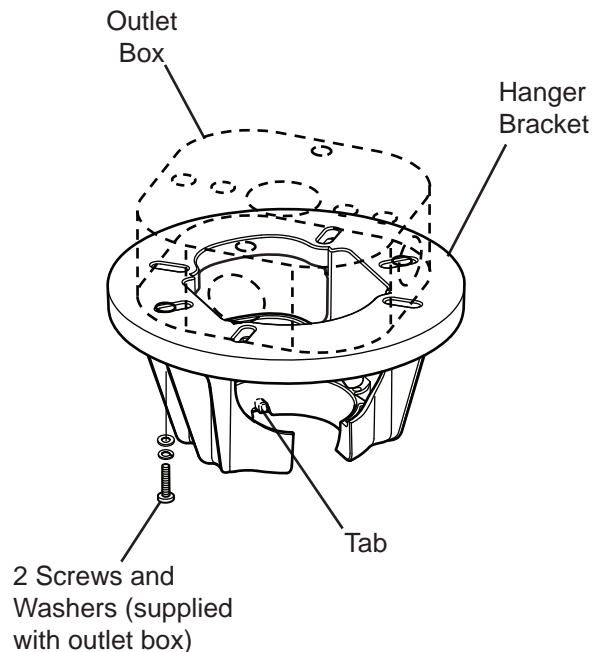

Fig. 7
1. Securely attach the hanger bracket to the outlet box using the outlet box screws and washers supplied with your fan or outlet box (Fig. 7).